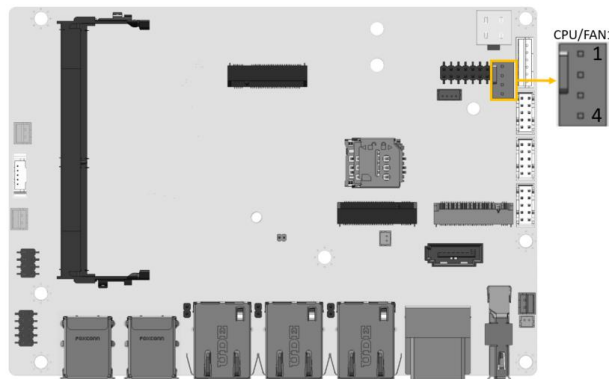

Figure 4-4: Fan Connector Location
- CN Location:** See **Figure 4-4**